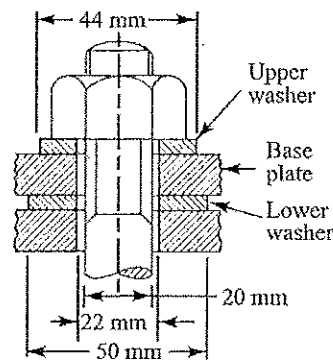

Fig.Q2
- a. List six (06) factors that influence the magnitude of safety factor. [3 marks]
- c. A square shaped base plate is fixed at its four corners using nuts and bolts, which one fixation is shown in Fig.Q2. The bolt specification is M20. The plate rests on 4 washers of 22mm internal diameter and 50mm external diameter. Upper washers located between the nut and the base plate if of 22mm internal diameter and 44mm external diameter. With the self-weight total load on the base plate is 120kN.